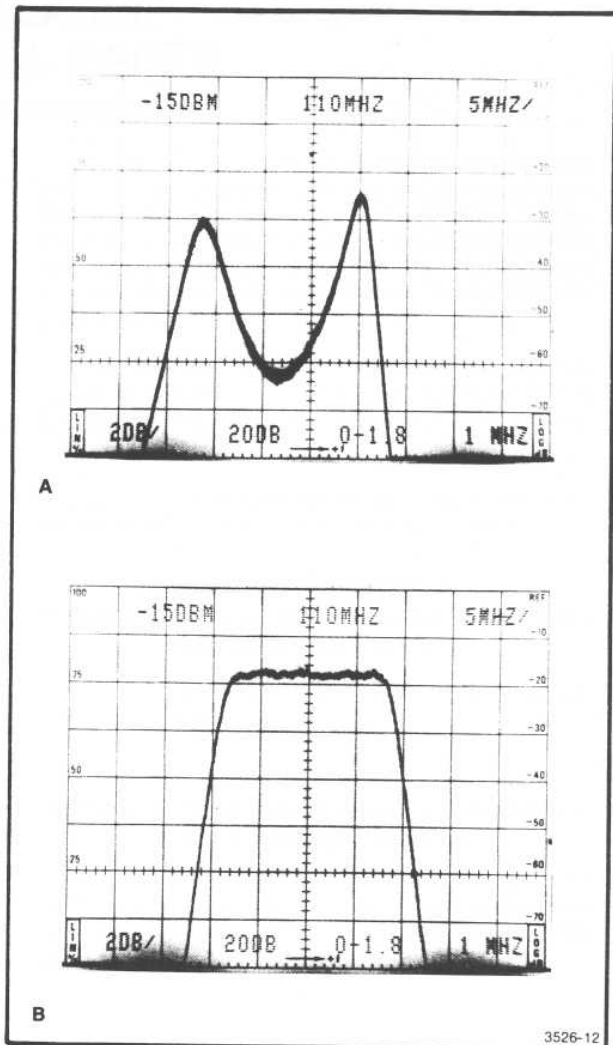

Fig. 5-10. Typical responses of the filter/mixer assemblies. (A) Detuned filter/mixer response. (B) Correct filter/mixer response.
k. Adjust the four cavities and the mixer coupling for the flattest bandpass response. Keep the response centered at the reference frequency as you adjust. Be very careful not to lose the signal. Typical response curves are shown in Fig. 5-10.